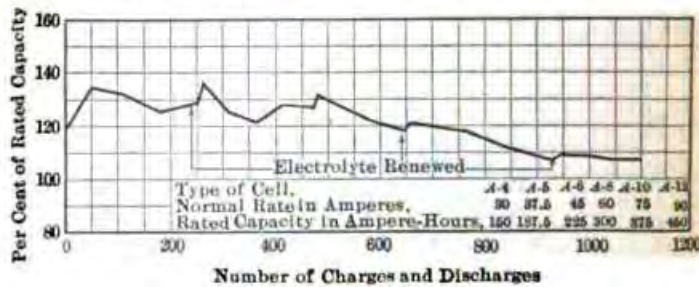

FIG. 60.—Log of life test.
mentioned cause, the capacity of the battery falls off, and, after about 250 cycles of charge and discharge, the electrolyte should be renewed. After each electrolyte renewal there is a temporary increase in capacity as shown in Fig. 60.
**232. Life of Edison battery.** A log of a life test as published by the Edison Storage Battery Co. is shown in Fig. 60, the statement is made that the conditions of the test are harder than would normally be met in service. The battery is more durable than the vehicle types of lead battery. It is doubtful if it approaches the durability of the heavy Planté types of lead cells.